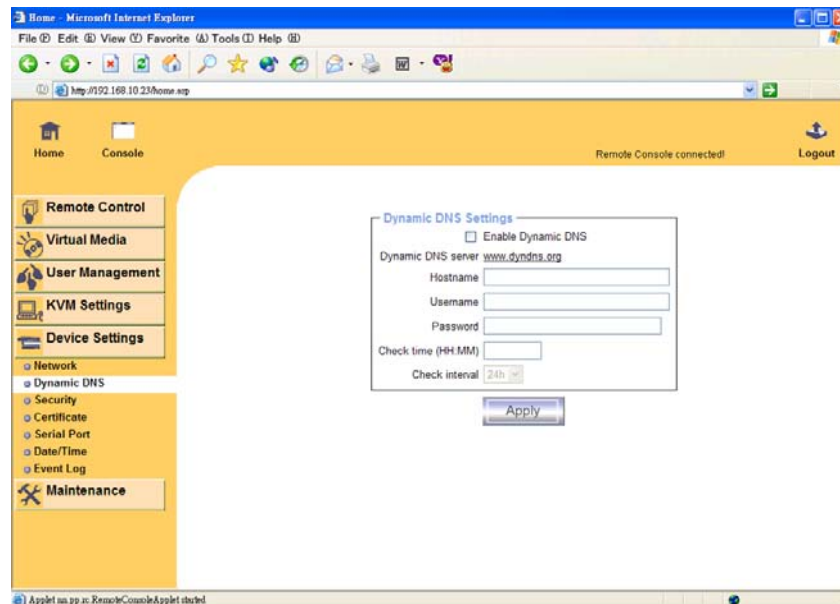

Figure 6-10: Dynamic DNS
- Enter the Dynamic DNS Settings configuration dialog as shown in Figure 6-10.